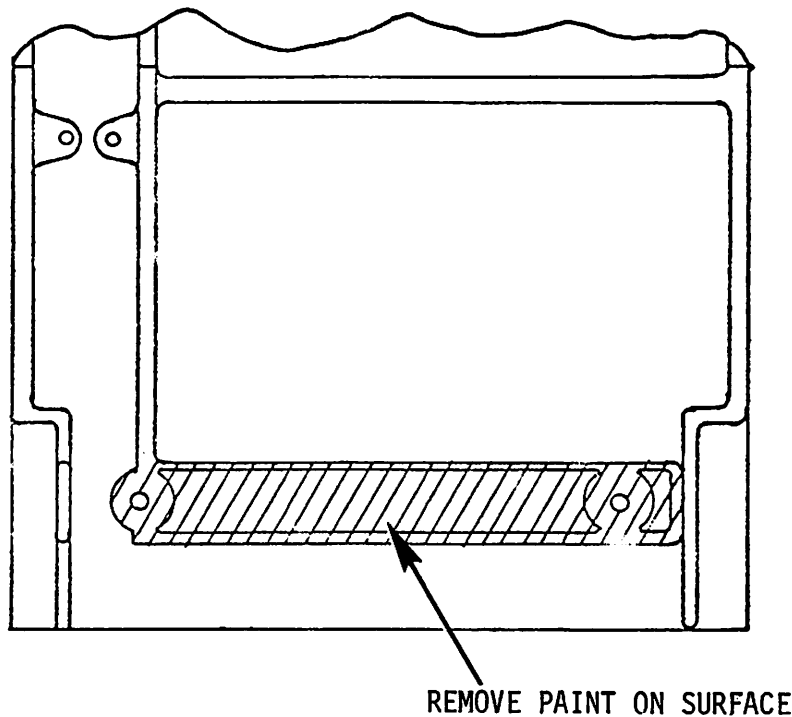

FIGURE 4
- b) Using a file or sandpaper, remove the paint from the area indicated in figure 4.